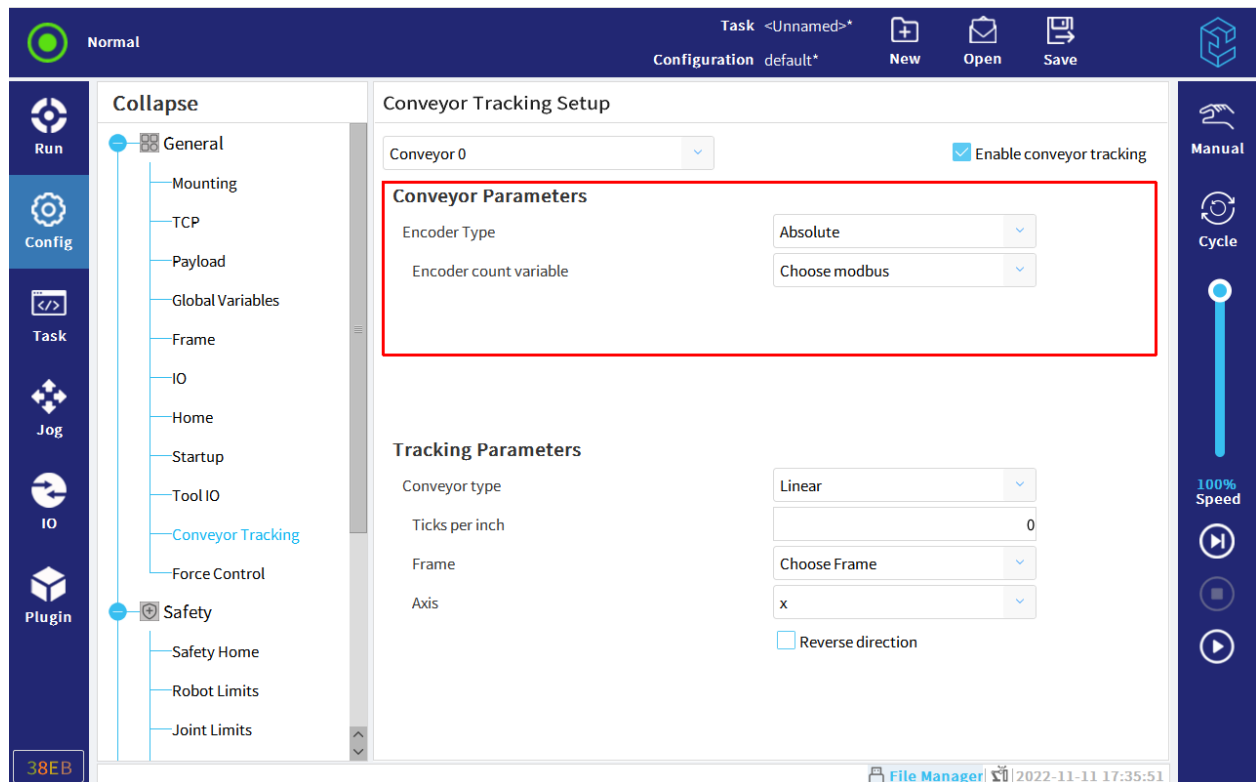

Figure 12-34 Configure conveyor parameters
4. Select "Encoder count variable" as the "Modbus" setting, as shown in Figure 12-34.